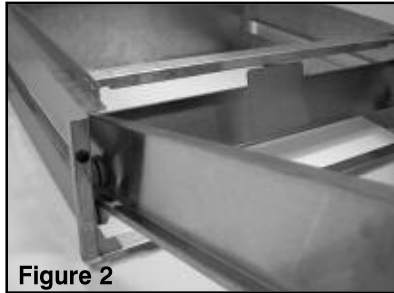

Figure 2
**NOTE:** Fully extend Inner Drawer Chassis. Then, remove stainless steel Drawer Pan by "tilting" pan upwards to clear "Safety Stop" (**Figure 2**).